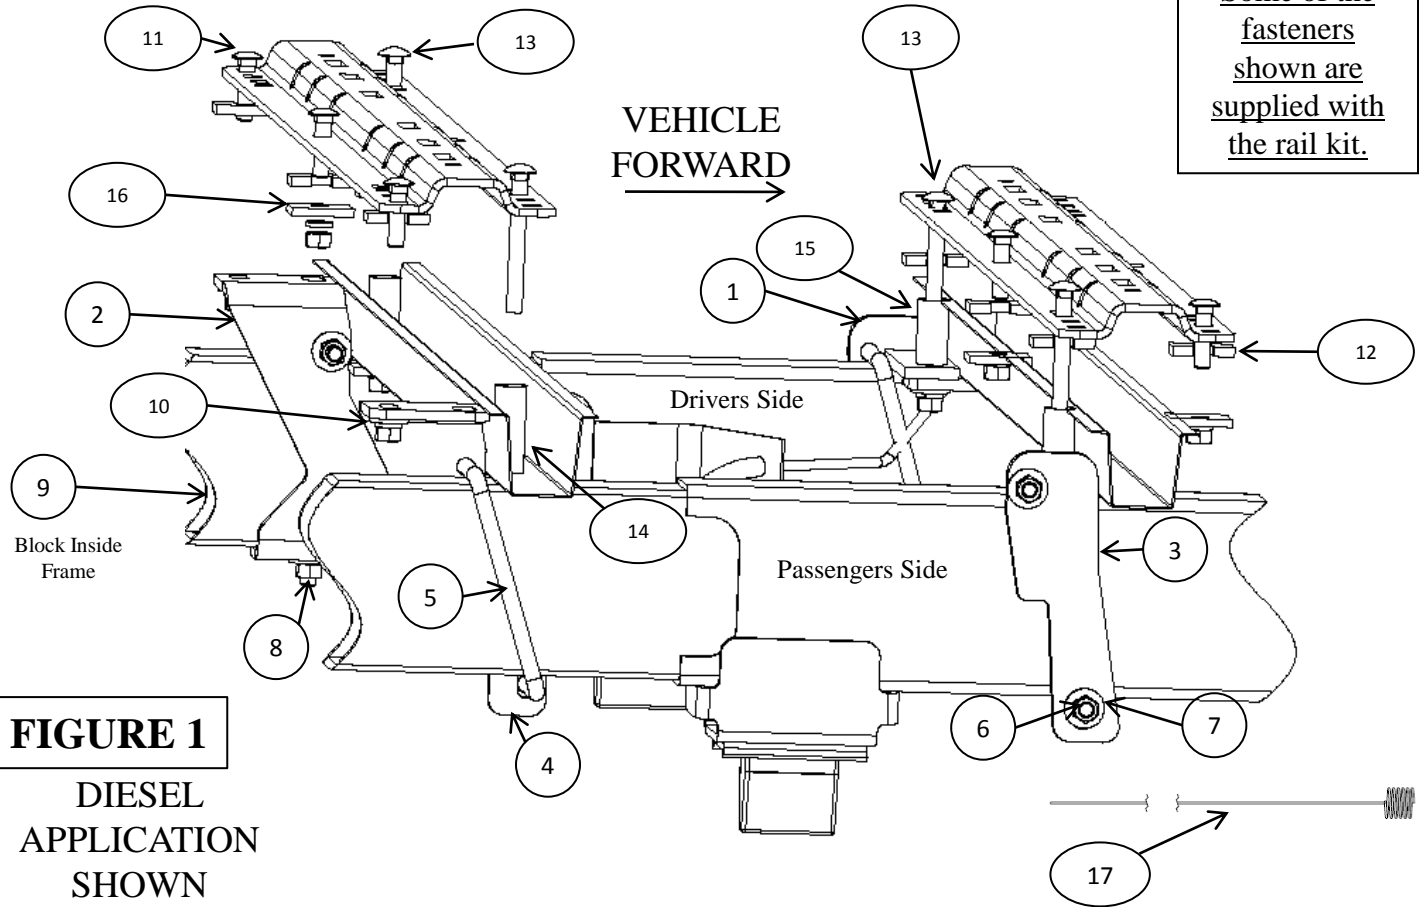

FIGURE 1
5. Temporarily position the rear frame brackets (2) and (4) on the inside of the frame as shown in Figure 1 and 2 and check that the 1/8in. drilled holes align with the slots of the frame bracket. Remove the frame bracket from the vehicle if the holes align. If not, adjust the 1/8 in. holes so that they do align.
- a) Place the rear brackets (2) (4) on the inside of the frame as shown in Figures 1 and 2.
- b) Install a u-bolt (5) on each of the brackets. The u-bolt wraps around the outside of the frame, right behind the rear bed support. Loosely install 1/2 in. conical washers (7) and hex nuts (6) onto the ends of the u-bolts. **NOTE: The exhaust might need to be temporarily lowered to gain access to the bottom u-bolt end on the passenger side rear frame bracket, depending on the vehicle.**
- c) For the drivers side rear only, feed a 1-3/4 in. carriage bolt (8) and 1 in. x 3 in. block (9) into position in the slot on underside of frame using a pull wire. There is a round hole in the inside of the frame that can be used to feed the hardware. Loosely fasten the carriage bolt (8) with 1/2 in. conical washer (7), lock washer (10) and hex nut (6).
9. Install the 1/2 in. x 2 in. long carriage bolts (11) through rear rail, u-shaped spacers (12) (above or below bed depending on corrugation), and rear holes of the rear brackets (2) (4). **NOTE: The u-spacers may need to be installed beneath the bed and above the frame bracket if you are drilling into the raised area of the bed corrugation.**
10. Install the 1/2 in. x 4-1/2 in. long carriage bolts (13) down through front holes in rear rail, tube spacers (14), and in the front holes of the rear bed support. Install the 1-1/2 in. x 2 in. block (16) with lock washers (10) and nuts (6) on the bolts (13). Snug nuts up by hand.
11. Install the 1/2 in. x 2 in. long carriage bolt (11) in the center hole of the rear rail as show in Figure 1. Place a u-shaped spacer (12) (above or below the bed depending on corrugation), and attach the bolt with a 1-1/2 in. x 2 in. block (16), 1/2 in. lock washer (10), and hex nut (6) on the bottom.
13. Repeat Steps 4, 5, and 6, using the front frame brackets (1) (3). The bracket should be just rearward of the next bed support.